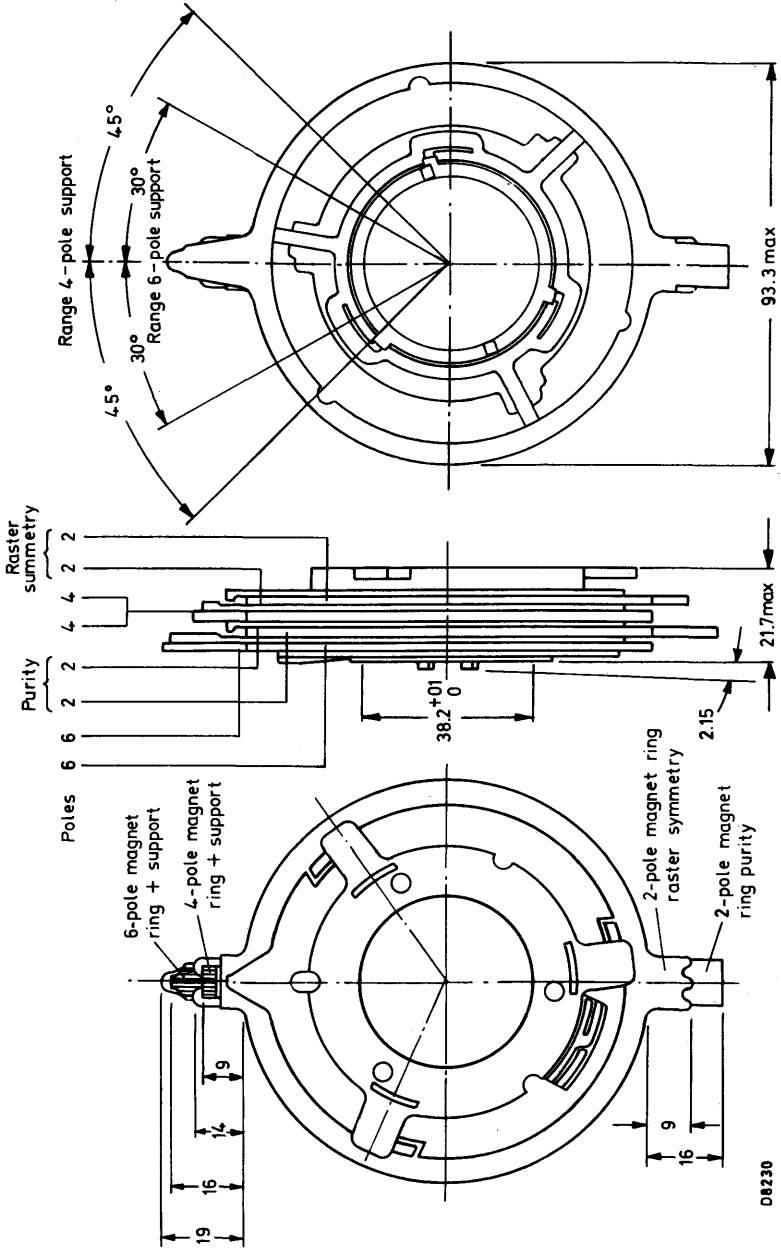

Fig. 1.
See Fig. 1 on next page.
*Horizontal colour purity* is obtained by varying the field strength of the 2-pole magnet situated between the 4-pole and 6-pole magnets (see Figs 1 and 2).
The *static convergence* is adjusted by varying the field strength and direction of the 4-pole and 6-pole. The 4-pole field moves the outer electron beams (red and blue) equally in opposite directions (see Fig. 3). The 6-pole field moves the outer electron beams equally in the same direction (see Fig. 4). The centre beam (green) is unaffected. Horizontal axis or raster symmetry is adjusted by varying the field strength of the 2-pole magnet situated at the rear of the unit (see Fig. 1). All three beams are equally moved in a vertical direction (see Fig. 5).